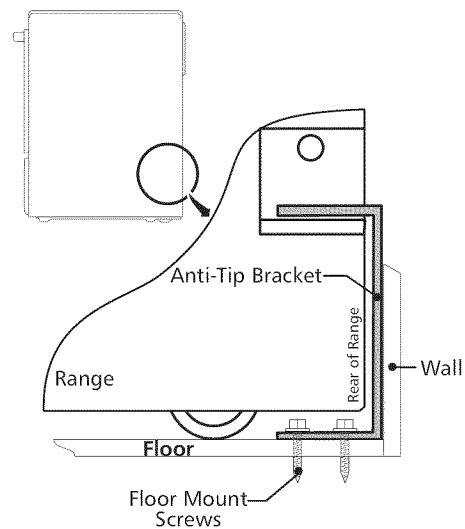

Figure 15
4. Remove template and place bracket on floor. Line up holes in bracket with marks on floor and attach with 4 screws provided. Bracket must be secured to solid floor (Figure 15). If attaching to concrete floor, first drill 3/16" (0,48 cm) dia. pilot holes using masonry drill bit.